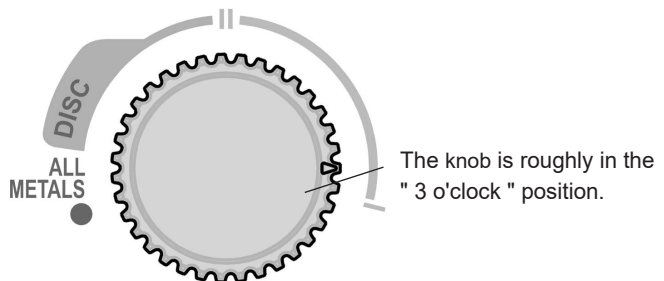

Figure 11. The ALL METALS/DISC Knob
3. To have the metal detector ignore nickel metals, set the ALL METALS/DISC knob to about " 3 o'clock " ( see Figure 11 ). Sweep the nickel across the search coil at a distance of about 5cm to 7.5cm; the metal detector will not respond to the nickel or the iron nail. But it will respond to the